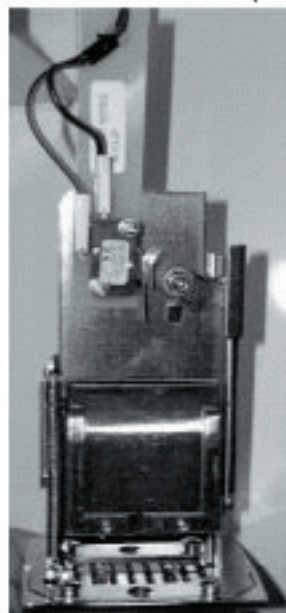

Fig. 2-34
9. Connect the two harness wires in the meter case to the coin slide switch. (Fig. 2-34)